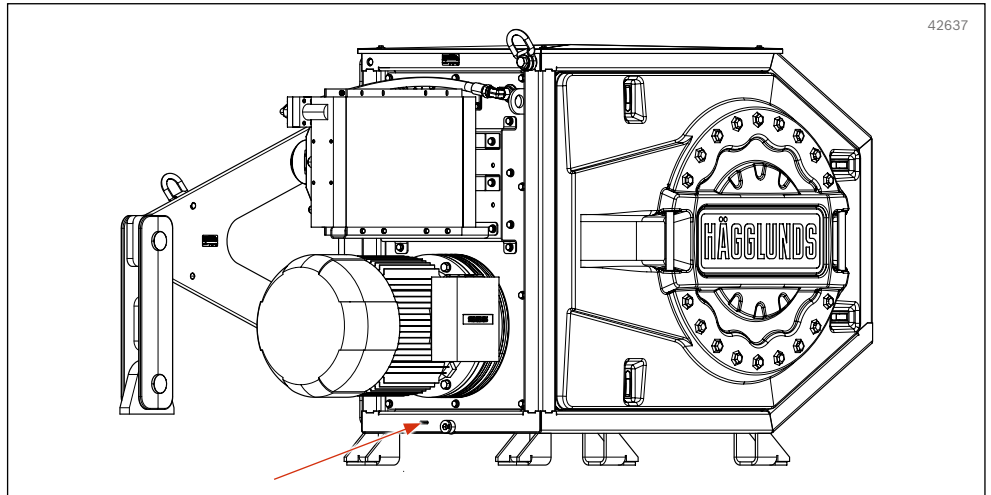

Fig. 20: Grounding point
- ▶ Grounding shall be carried out according to local regulations before the electric equipment is connected to the main voltage. Grounding point is on the side of the frame see *Fig. 20*.